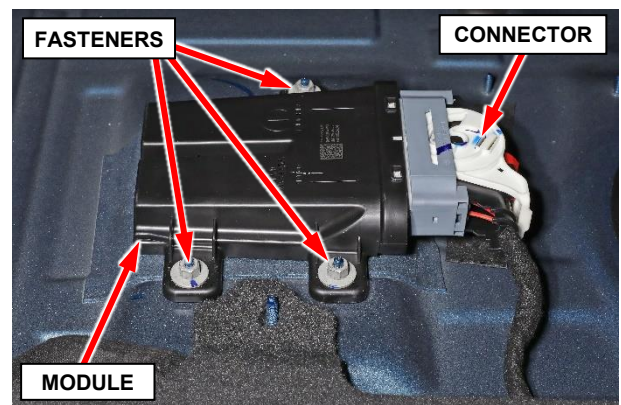

Figure 2 – Trailer Tow Module
5. Disconnect the wire harness connector from the trailer tow module (Figure 2).
6. Remove the three fastener nuts securing the trailer tow module to the vehicle floor (Figure 2).
7. Remove the trailer tow module from the vehicle (Figure 2).
10. Install the **NEW** trailer tow module to the vehicle and tighten the three fastener nuts securely (Figure 2).
11. Connect the wire harness connector to the trailer tow module (Figure 2).